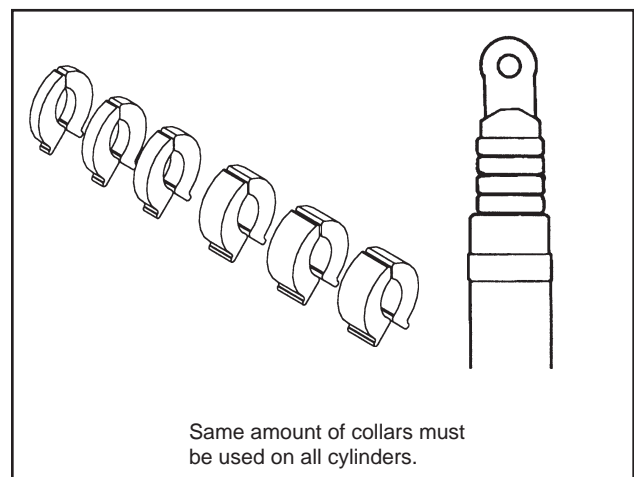

Figure 3
3. Install desired amount of depth control stops on every cylinder. (Figure 3)